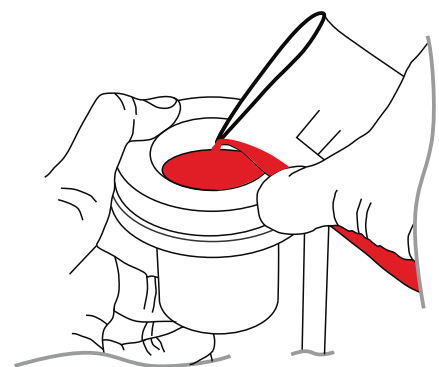

Figure 2
- 3 Place a finger over the cup orifice to close the orifice (Figure 2).
- 4 Pour the liquid gently into the cup, avoiding the formation of air bubbles (Figure 2).